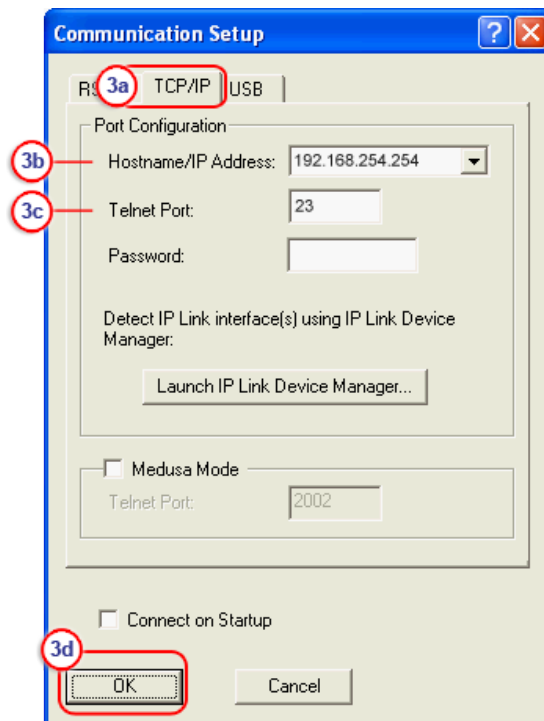

Figure 94. TCP/IP Communication Setup Window
2. The DataViewer Communication Setup window opens (see figure 94).
3. On the Communication Setup window (see figure 94):